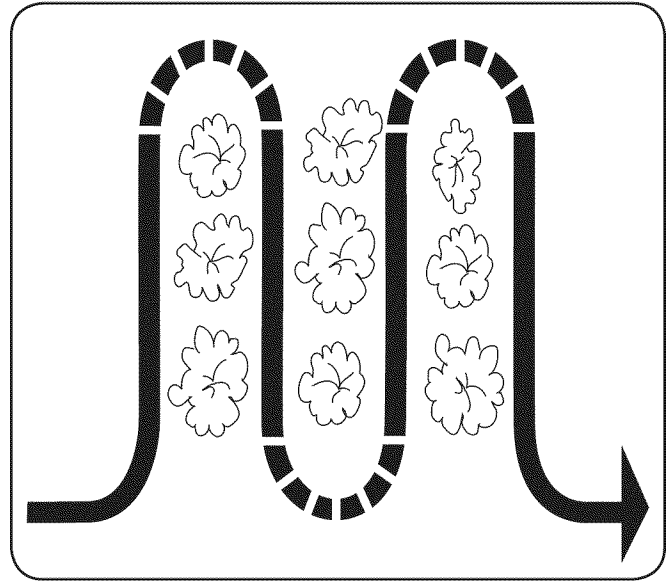

Figure 5-3
- When cultivating (breaking up the surface soil around the plants to destroy weeds, see Fig. 5-3), adjust the tines to dig only 1” to 2” deep. Using the shallow tilling depth helps prevent injury to the plants whose roots often grow close to the surface. If needed, lift up on the handlebars slightly to prevent the tines from digging too deeply. (Cultivating on a regular basis not only eliminates weeds, it also loosens and aerates the soil for better moisture absorption and faster plant growth.) Watering the garden area a few days prior to tilling will make tilling easier, as will letting the newly worked soil set for a day or two before making a final, deep tilling pass.